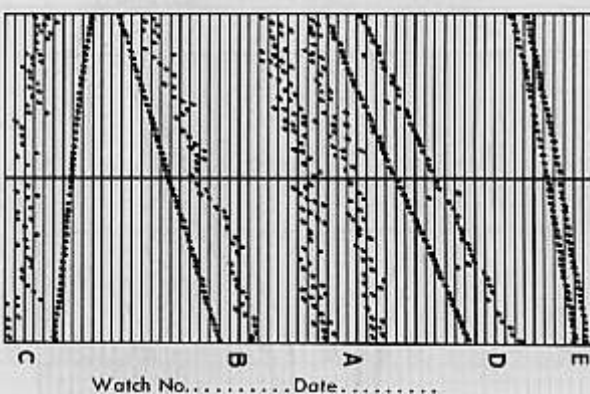

Figure 40 — Result of Poor Adjustment of Hairspring and Regulator Pins
(6) **FIGURE 40.** Much of the ordinary trouble encountered in watches is traceable directly to the hairspring, particularly with regard to its relation to the regulator pins and also to defects in the escapement. Record "A" may indicate that the spring bears harder and longer against one of the pins. Record "B" may show that one of the pins is bent at an angle. Records "B" and "C" may indicate improper locking of the escapement. Record "B" may show trouble in the receiving stone of the pallet. Record "C" may indicate trouble in the discharge stone of the pallet. Record "D" shows good hairspring and good escapement adjustment but may indicate that the movement could be improved by putting in beat. This would bring the lines closer together as in record "E."